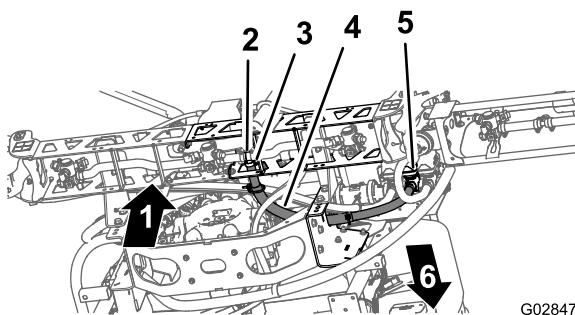

Figure 34
1. Route the center boom-section hose as shown in Figure 34.
- Install the boom section hose over the barbed T-fitting at the center boom section and secure the hose with a hose clamp (Figure 34).